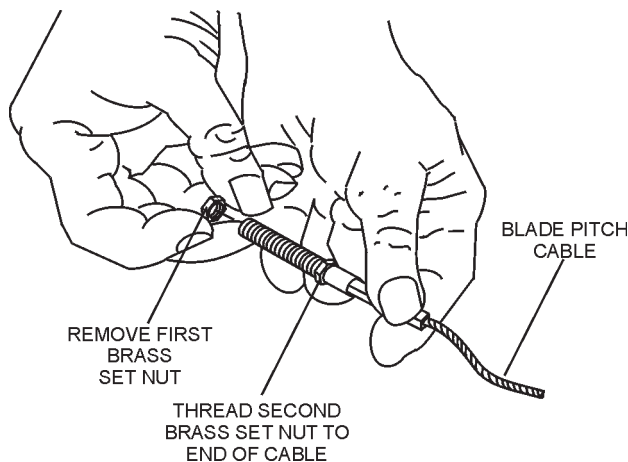

Figure 13. Blade Pitch Cable
3. Remove one brass set nut from the blade pitch cable end as shown in (Figure 13).